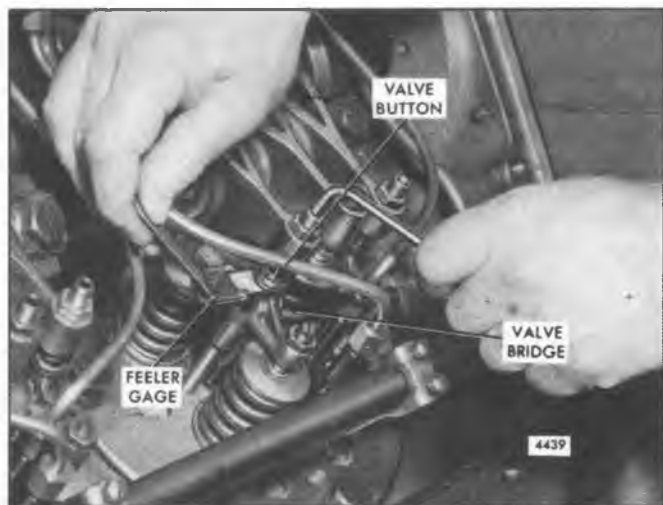

Fig. 1 - Adjusting Valve Clearance
5. Place a .016" feeler gage (J 9708-01) between the end of the valve button and the pallet of the valve bridge (Fig. 1). Adjust the valve adjusting screw to obtain a smooth pull on the feeler gage.